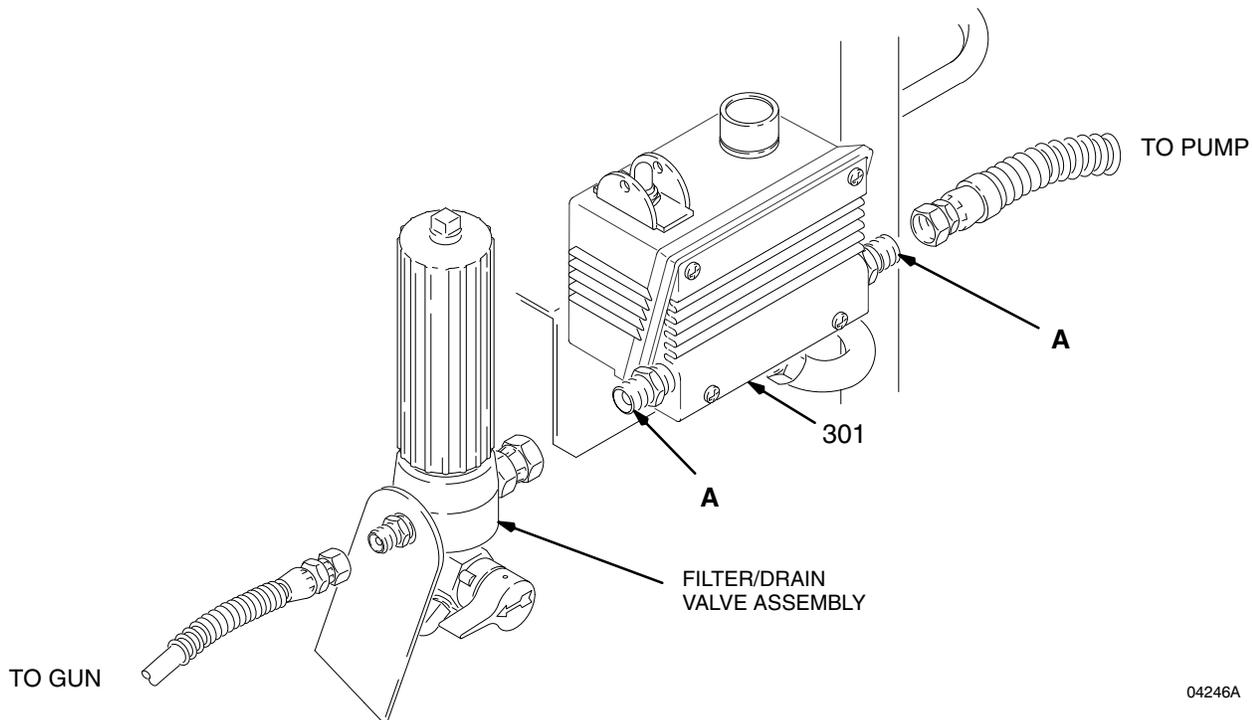

Fig. 18
2. Disconnect the filter/drain valve assembly and the pump supply hose at the pressure control while holding the pressure control fitting (A) firmly. See the **CAUTION**, below. See Fig. 18.